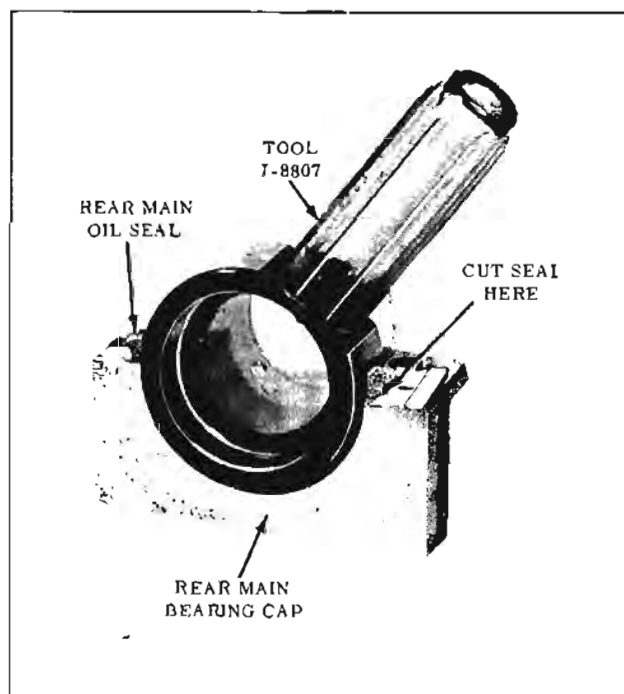

Fig. 8-151 Installing Rear Oil Seal
in the rear main bearing cap. (REAR MAIN BEARING OIL SEAL) (Fig. 8-151)
2. Using Seal Installer J-8807, hammer seal into groove. (Fig. 8-151)
NOTE: To check if seal is fully seated in the bearing cap, slide Tool J-8807 away from seal. With Tool J-8807 fully seated in the bearing cap, slide tool against the seal. If under cut area of tool slides over the seal, the seal is fully seated. If tool butts against the seal, the seal must be driven further into the seal groove. Rotate tool before cutting off excess seal packing. (Fig. 8-151.)
3. Hold Tool J-8807 as in Fig. 8-151. Cut seal 1/16" from bearing surface. Taper end of seal into a point. With screwdriver, pack seal fibers towards center, away from edges. Rotate seal installer to cut seal between notch and handle.